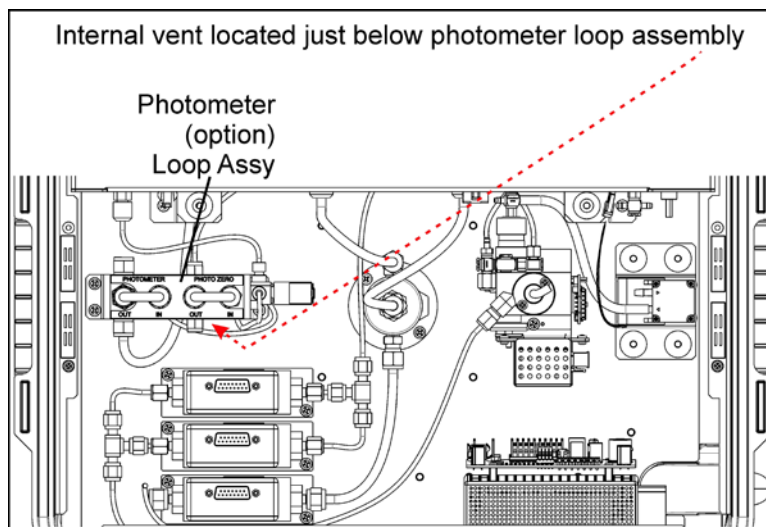

Figure 8-2: Internal Vent Location
6. Use the 1/8" cap to securely cover the outlet of the internal vent (Figure 8-2).